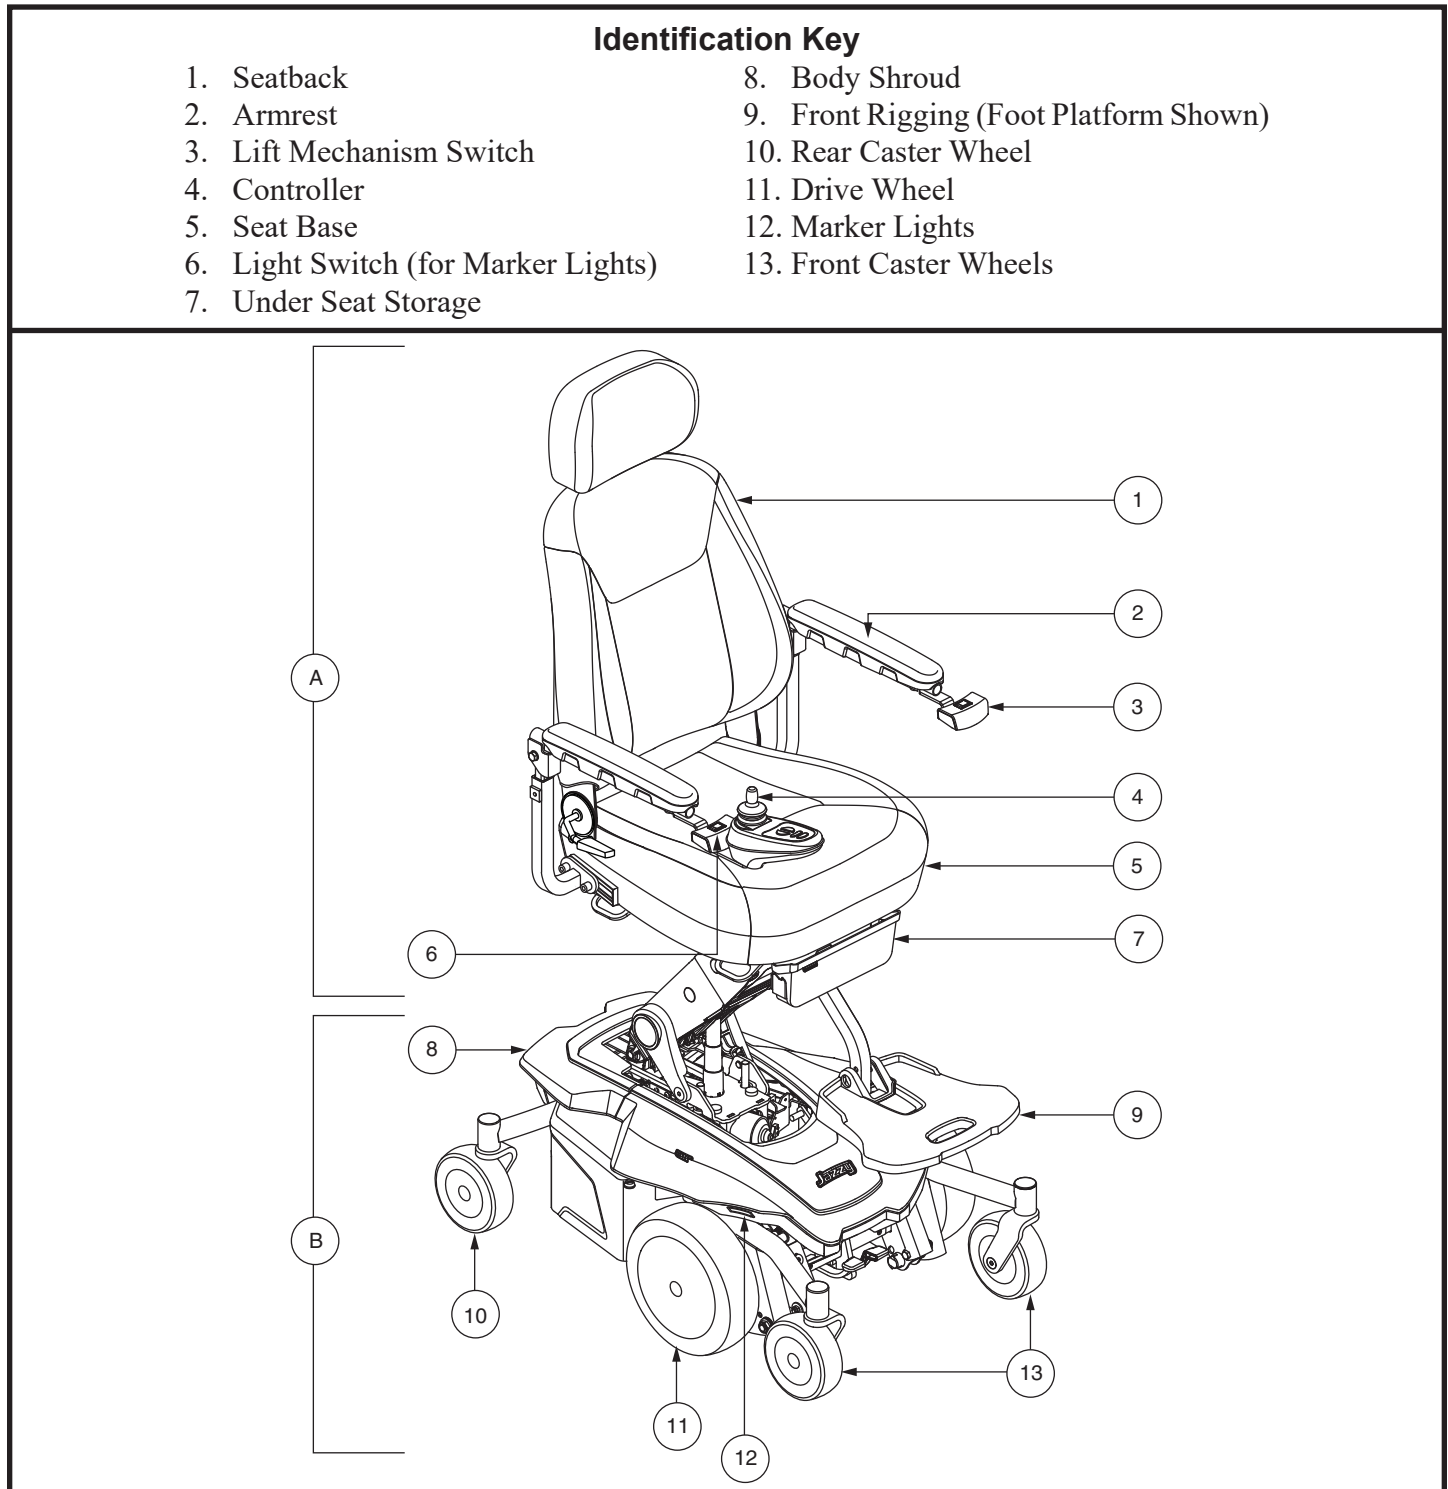

Figure 1. The Jazzy Air® 2 Power Chair
The Jazzy Air® 2 Power Chair has two main assemblies: the seat assembly (A) and the power base assembly (B). See figure 1. Typically, the seat assembly includes the armrests, seatback, and seat base. The power base assembly includes two motor/brake assemblies, two drive wheels, four caster wheels, two batteries, and wiring harnesses. See figures 1, 2, and 3.
Your power chair is equipped with marker lights. The lights are composed of white LEDs in the front and red LEDs in the rear and are mounted on the shroud of your power base. See figure 1.